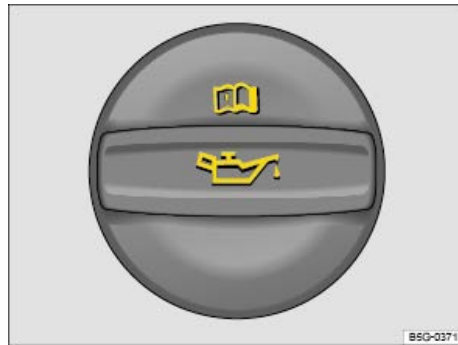

Fig. 168 In the engine compartment: Engine oil filler cap.
4. Find the oil filler opening and the dipstick. You can identify these by the 🛢 symbol on the engine oil filler cap ⇒ fig. 168 and the colored handle on the dipstick. If you are not sure where the cap and the dipstick are located, see your authorized Volkswagen dealer or authorized Volkswagen Service Facility for assistance.
- (A): **Do not start the engine** ⇒ . Contact an authorized Volkswagen dealer or an authorized Volkswagen Service Facility for assistance.
- (B): **Do not** add any oil ⇒ . Continue with step 15.
- (C): Oil may be added, depending on the oil level. Continue with step 8 or step 15.
- (D): **You must** add oil (about 1 quart / 1.0 liter). Continue with step 8.
9. Remove the cap on the engine oil filler opening ⇒ fig. 168.